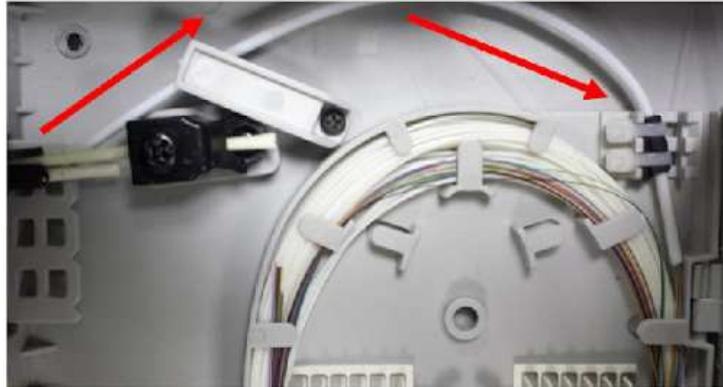

Figure 16
1.5.2 Route the fibers and prepare the ends for splicing (Fig. 16);